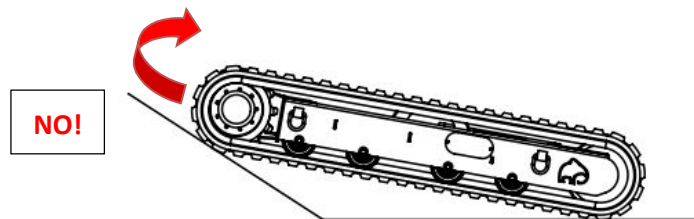

Fig. 7.5-7 - Example of an error when moving the machine: steering is forbidden when moving from flat to sloping ground
- While climbing, do not turn the steering wheel while passing from flat ground to the slope (Fig. 7.5-7). If this is absolutely necessary, perform the manoeuvre gradually.